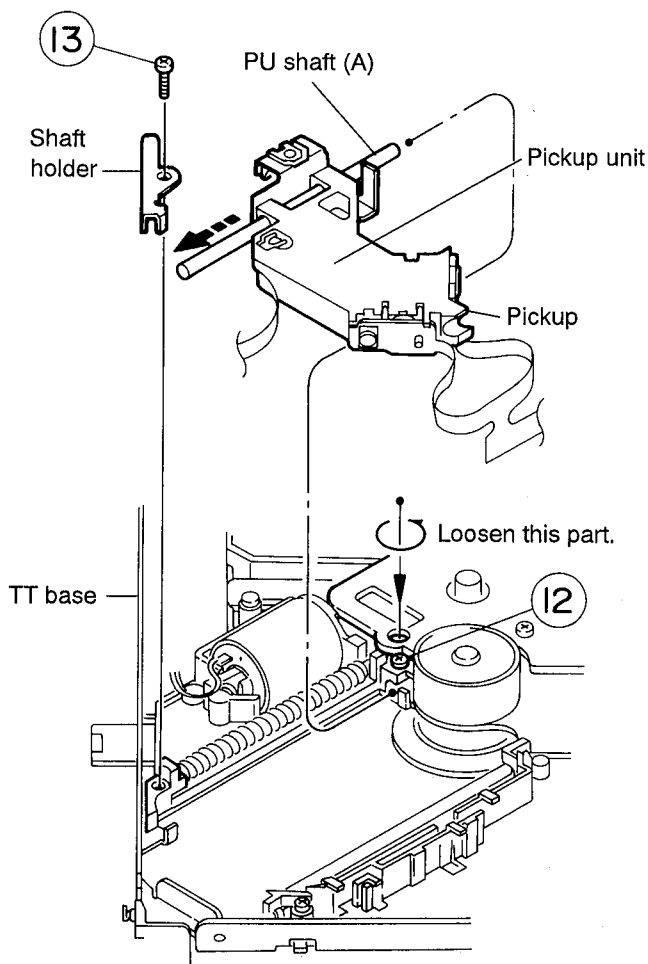

Fig. 4-22
1. By loosening the screw (12) retaining the pickup (PU) shaft (A), remove the screw (13) and dismount the shaft holder (See Figs. 4-22 and 4-23).
### ● Assembly of pickup unit (See Figs. 4-22 ~ 4-25)
3. Insert the PU shaft (A) to the pickup and press it fully to the end on the TT base side (See Fig. 4-22).
4. After attaching the shaft holder, tighten the loosened screw (12) (See Fig. 4-22).